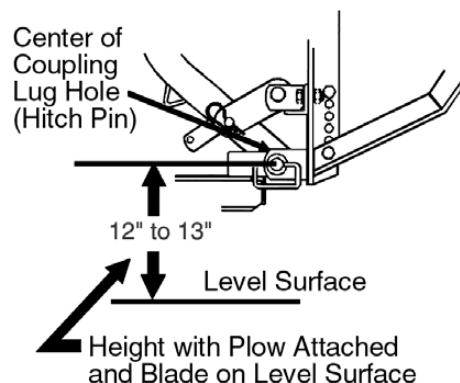

Figure 31
2. With the blade on a level surface, slack in lift chain and rear ballast located behind rear wheels, the center of the coupling holes (hitch pin shaft) to level surface should measure 12" to 13". To obtain height, adjust spreader position. (See Figure 31.)